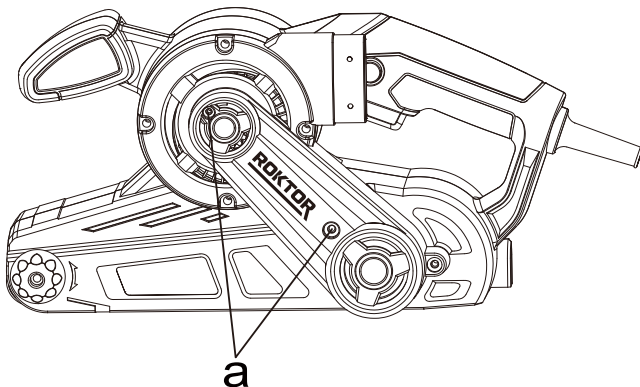

Figure 7-1
5. DRIVE BELT REPLACEMENT (SEE FIG. 7-1 & 7-2)
Remove the two screws (a) and the belt cover as shown. (See Fig. 7-1)